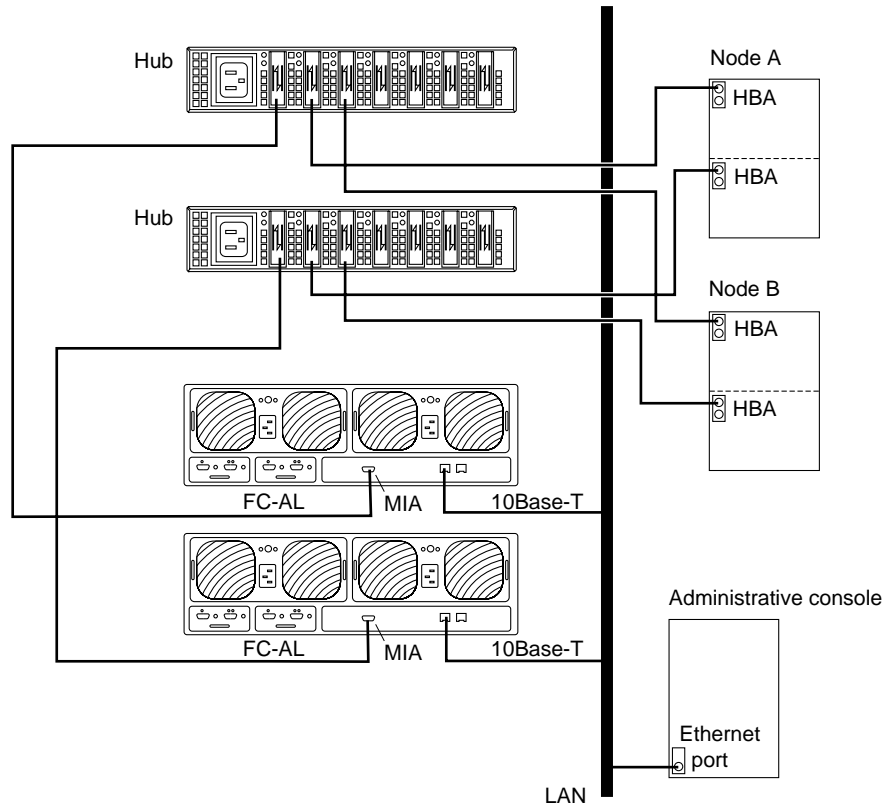

FIGURE 8-1 Cabling a StorEdge T3 Disk Tray in a Single-Controller Configuration
4. Cable and power on the StorEdge T3 disk trays as shown in FIGURE 8-1.
Note – Although FIGURE 8-1 shows a single-controller configuration, two disk trays are shown to illustrate how two non-interconnected disk trays are typically cabled in a cluster to allow data sharing and host-based mirroring.